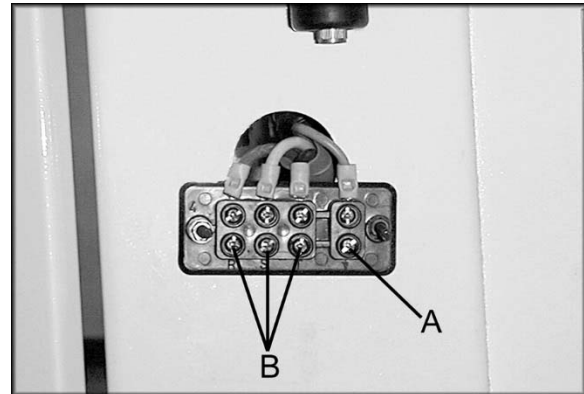

Figure 1
2. Remove the wiring cover and attach the ground wire (A), Figure 1.
3. For 3 Phase: Connect the three power leads (B) to the wiring board.